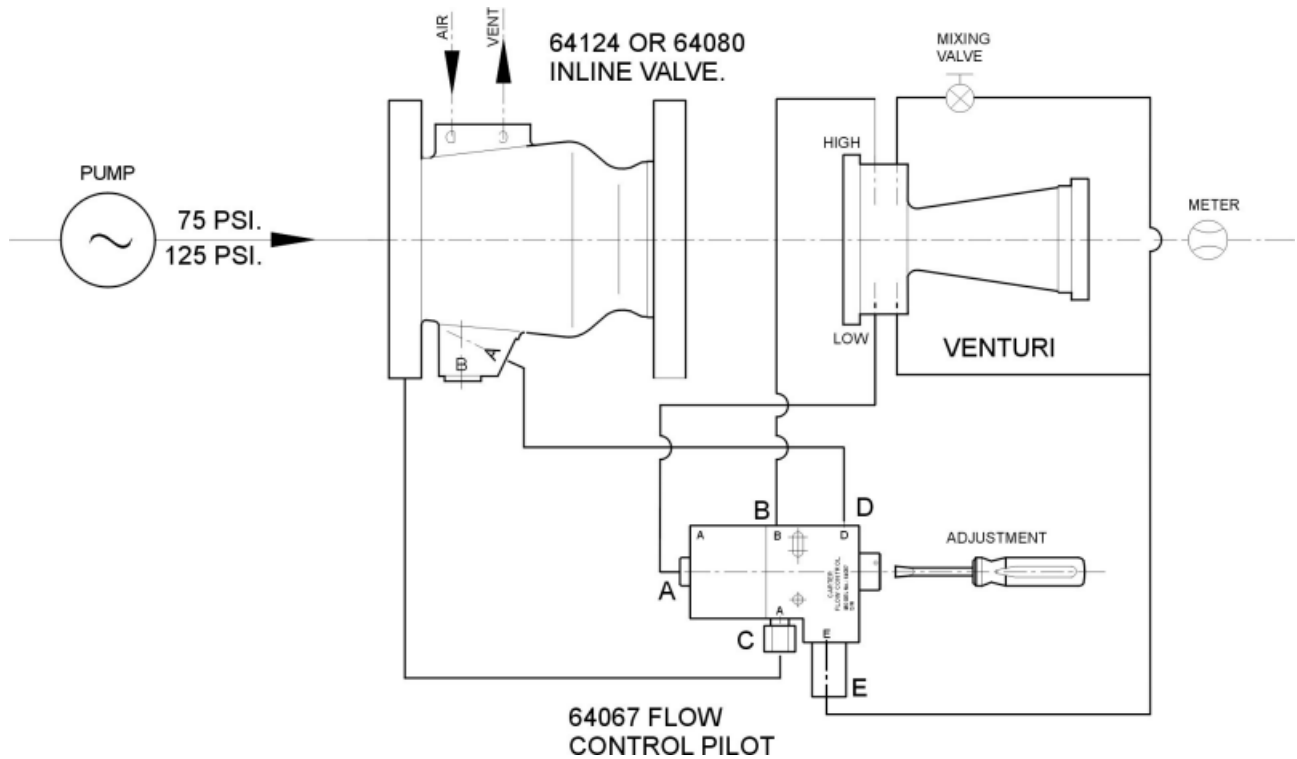

FIGURE 6 - 64067 INSTALLATION
4.5.1 Installation - Refer to Figure 6. The choice of the locations for obtaining the 2-10 psi differential may not be at the Venturi as shown. It is important that no less than 2 nor more than 10 psi differential be used.